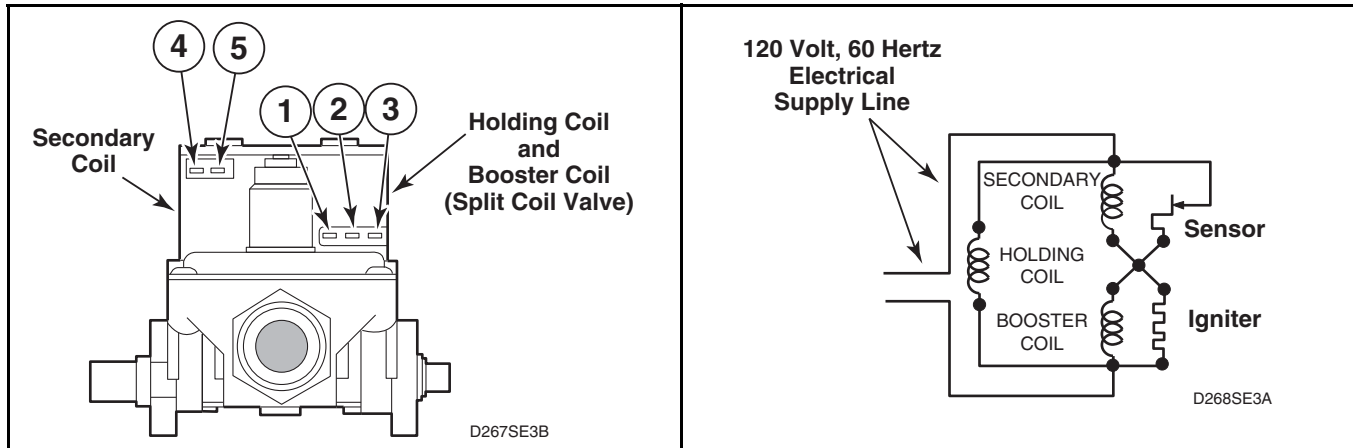

Figure 16
(Gas Models – Refer to *Figure 16*.)
- f. Set test meter to read AC voltage and apply meter probes into terminals on the dryer harness plug that would correspond to terminals "1" and "2" on the coil. Refer to *Figure 16*. Meter should register line voltage in all Fabric settings, except FLUFF which should read "zero" VAC.